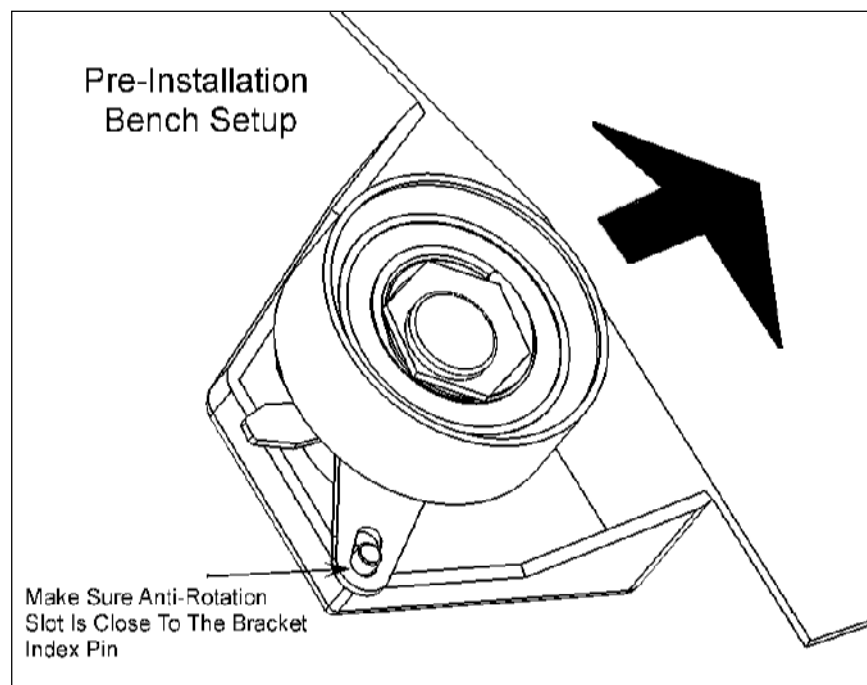

Figure 8: Bench Setup of the Timing Belt Tension on Viscous Fan Bracket
12. Rotate the installation shaft using the 6mm Hex Key until the tensioner guide slot is the furthest away from the top of the bracket, see Fig. 8. This will ensure that the tensioner is at its furthest position from the belt.